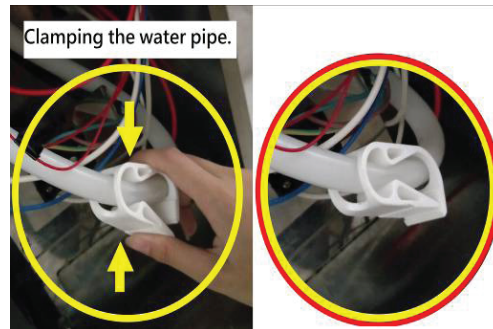

Figure 2
4. Fasten the white shut off clamp at the end of the drain hose (Figure 2)